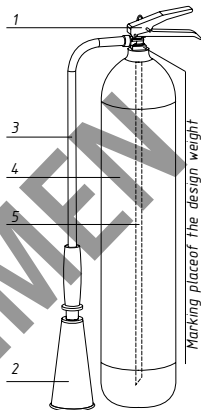

Figure 1
4.1 Fire extinguisher design is shown in the Figure 1.